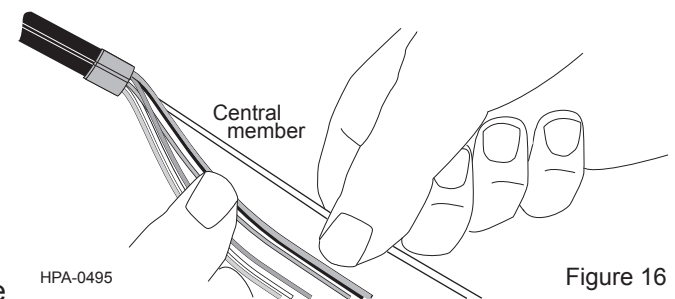

Figure 16
- Working from the end of the cable back to the tape wraps, carefully unwind the buffer tubes from around the central member of the cable (Figure 16). Be careful not to bend or kink any of the buffer tubes.